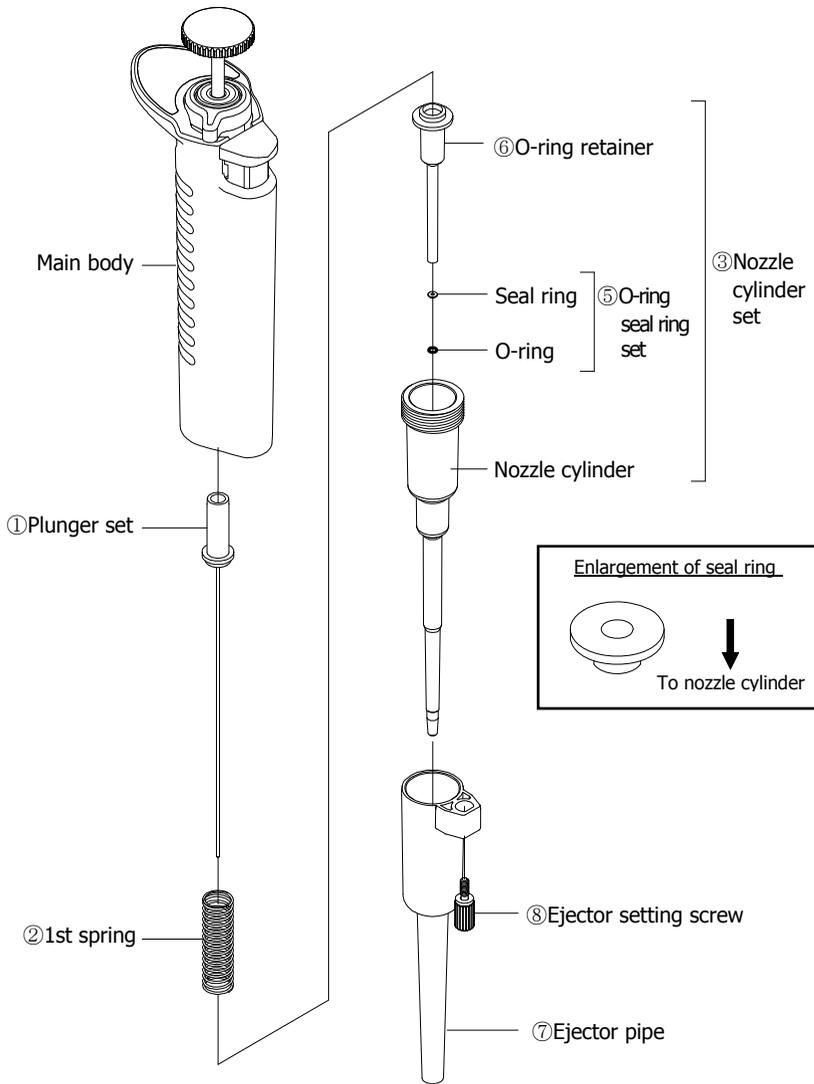
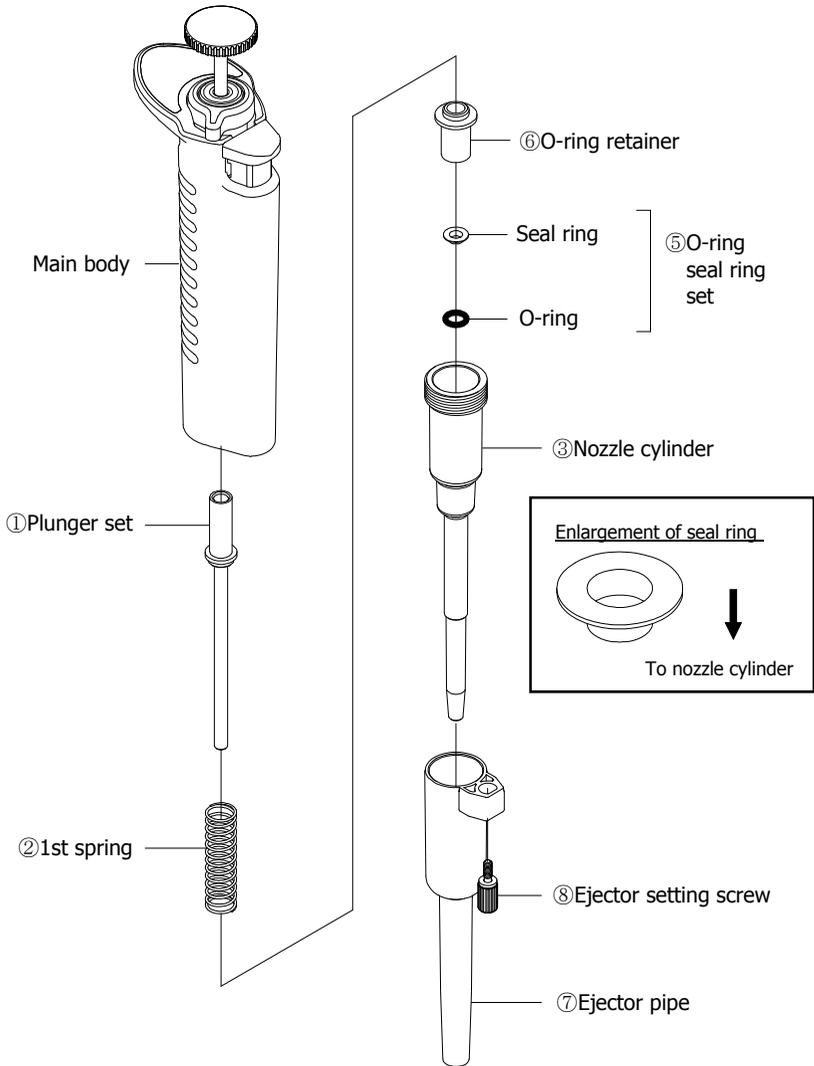

Fig. G1
Fig. G2
- 3) Disassemble the internal parts as shown in; (Fig. G1) for Models: 2 $\mu$ L, 10 $\mu$ L and 20 $\mu$ L, (Fig. G2) for Models: 100 $\mu$ L and 200 $\mu$ L, and (Fig. G3) for the Model: 1000 $\mu$ L.
- For models: 2 $\mu$ L, 10 $\mu$ L, 20 $\mu$ L (Fig. G1), 100 $\mu$ L and 200 $\mu$ L (Fig. G2), 1000 $\mu$ L (Fig. G3)
- Models: 2 $\mu$ L, 10 $\mu$ L, 20 $\mu$ L (Fig G1), 100 $\mu$ L and 200 $\mu$ L (Fig. G2), 1000 $\mu$ L (Fig. G3)
Circled Numbers in (Fig. G1) corresponds to Parts Numbers in the replacement parts list.
Circled Numbers in (Fig. G2) corresponds to Parts Numbers in the replacement parts list.